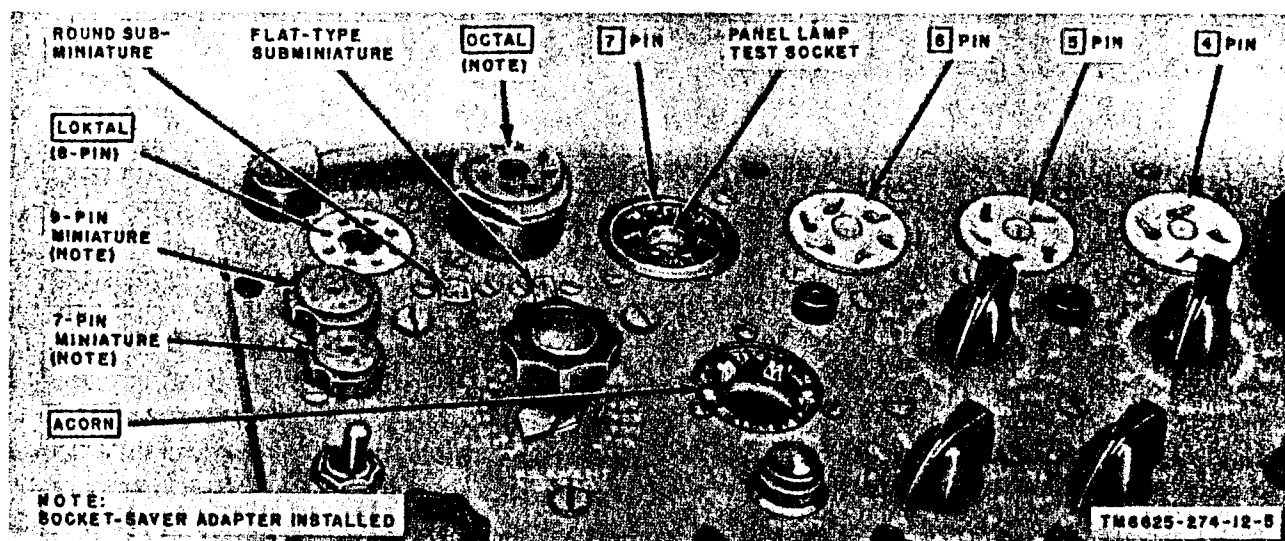

Figure 7. Test sockets, socket-saver adapters installed.
(fig. 7)
d. *Socket-Saver Adapters (TV-7D/U).* Three socket-saver adapters (fig. 7) are included with each TV-7D/U: one 7-pin miniature, one 9-pin miniature, and one octal. The adapters are installed in their corresponding sockets and receive the wear rather than the permanent socket. When worn so that satisfactory contact can no longer be made, the socket-saver adapters can be replaced without disconnecting the leads from their respective test socket.
proper test socket (fig. 7) and, if the instructions in the *Notations* column require it, connect panel jacks G or P to the tube caps with the test leads.